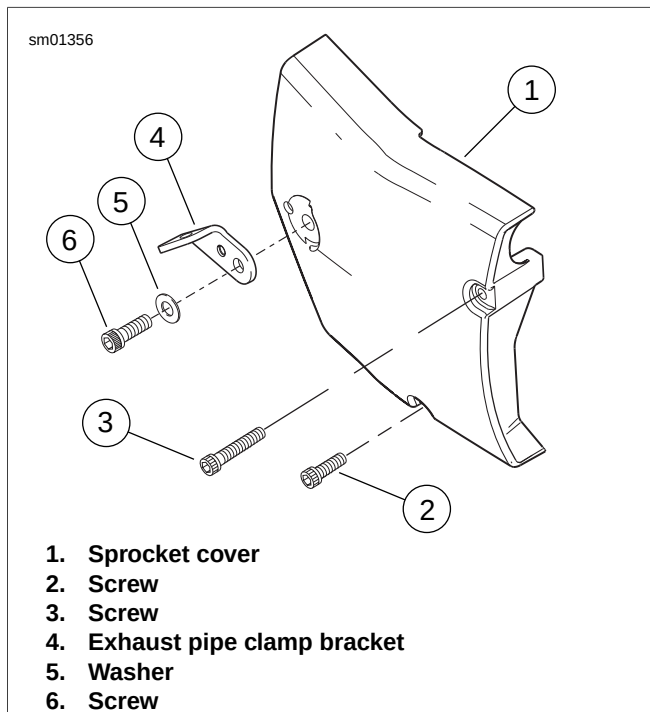
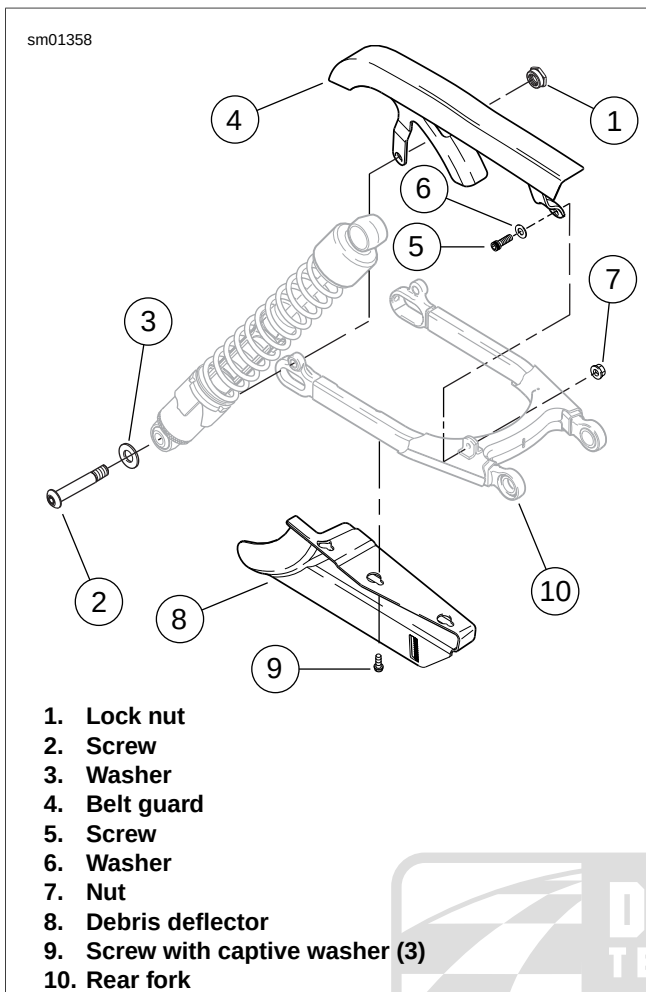

Figure 5-42. Sprocket Cover: XL Models
Figure 5-44. Belt Guard/Debris Deflector: XL Models
3. See Figure 5-42. Remove screw (6), washer (5) and exhaust pipe clamp bracket (4). Remove two screws (2, 3). Remove sprocket cover (1).
5. See Figure 5-44. Remove right lower shock absorber screw (2), washer (3) and lock nut (1).
2. See Figure 5-44. Install belt guard (4). Install screw (5), washer (6) and nut (7) securing front of belt guard to rear fork (10). Tighten to 120-180 **in-lbs** (13.6-20.3 Nm).
3. Position debris deflector (8) in place on underside of rear fork (10).
4. Fit large end of keyway slots in deflector over screw heads and captive washers (9). Slide deflector rearward to lock screws in slots. Tighten screws to 36-60 **in-lbs** (4.1-6.8 Nm).
5. Install right lower shock absorber screw (2), washer (3) and lock nut (1). Tighten to 45-50 **ft-lbs** (61-68 Nm).
6. See Figure 5-42. Install sprocket cover (1). Secure with two screws (2, 3). Note that long screw goes in top hole,